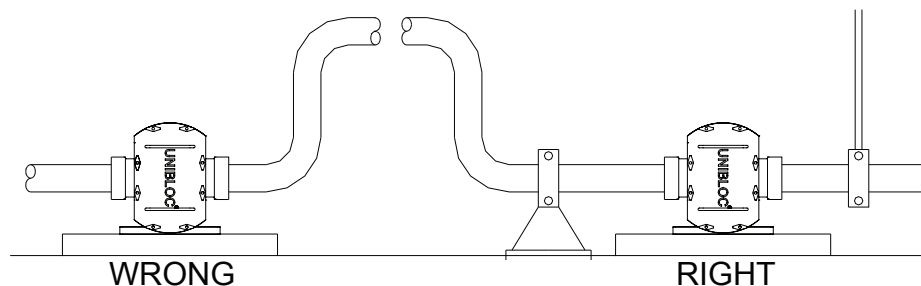

fig. 2.1
Incorrect installation, operation or maintenance of the equipment can cause serious personal injury and/or damage to the equipment and will invalidate the warranty. Make sure the pipes are well supported as the pump is not meant to serve this purpose. Keep in mind that pipes filled with liquid are very heavy. See fig. 2.1 for recommended pipe layout.
Never operate the pump if the front cover and/or suction/discharge pipe-work are not in place. Make sure they are properly installed, see fig. 2.1. Likewise, never operate the pump if other protection such as coupling and shaft guards are missing or incorrectly installed.
- Make sure the pipes are well supported. Do not use the pump to support the piping. See figure 2.1